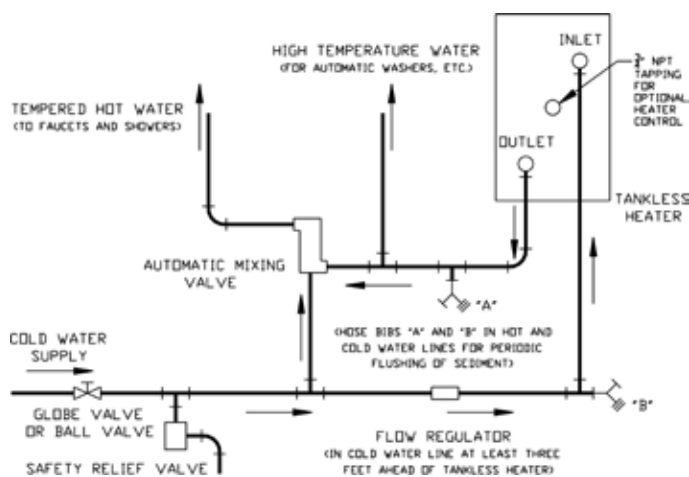

Figure 37a: Schematic Tankless Heater Piping
Figure 37a depicts the addition of an automatic mixing valve to the tankless heater piping to obtain a dual temperature domestic system. The mixing valve provides tempered water to the fixtures, while the branch prior to the valve provides high temperature water for dishwashing, washing machines and other appliances.
N. CONNECT TANKLESS HEATER PIPING as shown in Figure 37a. See Table IV for Tankless Heater Ratings.
If flow through the heater is greater than its rating, the supply of adequate hot water may not be able to keep up with the demand. For this reason a FLOW REGULATOR matching the heater rating should be installed in the cold water line to the heater. Refer to Figure 37a for piping recommendations. Locate the flow regulator below the inlet (cold water side) of the heater and a minimum of 36" away from the inlet so that the regulator is not subjected to excess temperatures during "off" periods when it is possible for heat to be conducted back through the supply line. The flow regulator will limit the flow of supply water regardless of inlet pressure variations ranging from 20 to 125 psi.
Refer to Figure 37a for piping recommendations. Adjust and maintain the mixing valve in accordance with manufacturers instructions.
All water contains some sediment which settles on the inside of the coil. Consequently, the heater should be periodically backwashed. This is accomplished by installing hose bibs as illustrated in Figure 37a and allowing water at city pressure to run into hose bib A, through the heater, and out hose bib B until the discharge is clear. The tees in which the hose bibs are located should be the same size as heater connections to minimize pressure drop.